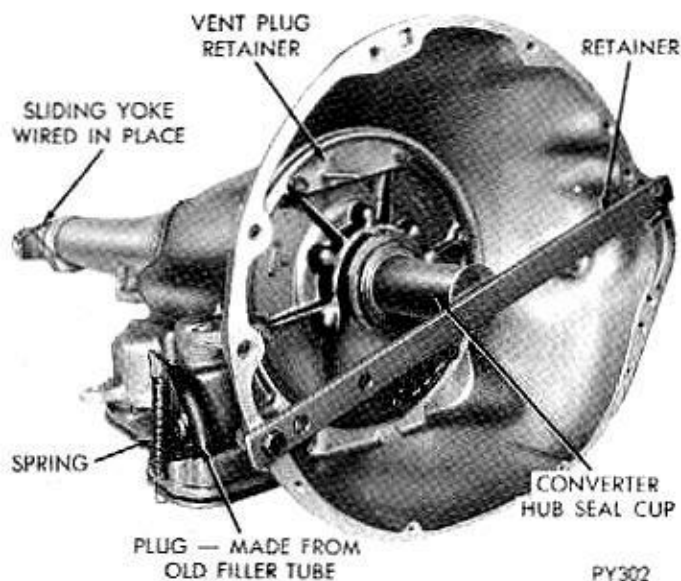

Fig. 4—Transmission Prepared for Test
(on front cooler line fitting), and pipe nipple (in case at rear cooler line fitting) (Fig. 4 and 5).
(2) Remove necessary front pump housing bolts, and vent shield (in A-727 transmission). Install vent plug (rubber stopper), and vent plug retainer (Fig. 4) preferably using longer bolts than those removed.
(3) With rotary motion, install converter hub seal cup (Fig. 4), over input shaft, and through the converter hub seal until the cup bottoms against the pump rotor lugs. Secure with cup retainer strap (Fig. 4), using converter housing to engine block retaining bolts.